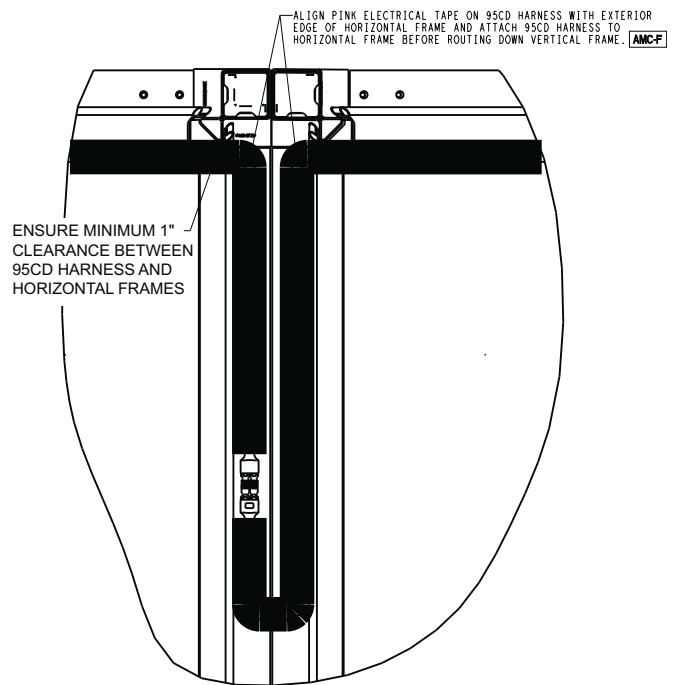

Fig. 29 — Harness After Field Assembly at Horizontal Split
- Place downstream section within 12 in. of the upstream section and detach harness(es) from shipping restraints, connect power poles for each harness as shown in Fig. 29.